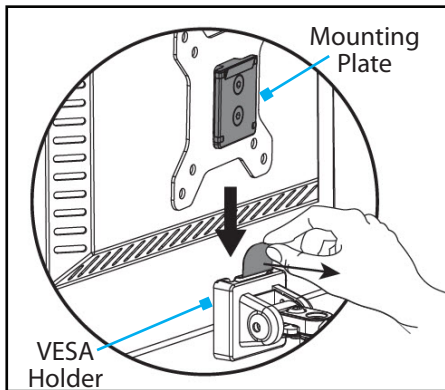

Figure 14
7. Pull the **VESA Clip** on the **VESA Holder** back towards the **Arm Assembly**. (Figure 14)